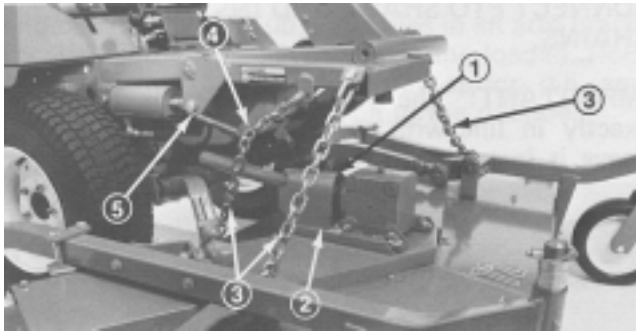

Figure 14
2. Mount PTO shield over input shaft and onto gear box mounting plate with two self-tapping screws (Fig. 14).
3. Attach lift chains to lift arm and cutting unit (Fig. 14) with six shackles, shackle pins (3/8 x 1-1/2 in.) (38 mm) and cotter pins (1/8 x 3/4 in.) (19 mm). Adjust chain length so both become tight at the same time when lifting lift arm.
3. Connect ends of tension spring between fourth link of rear chain and eye of cotter pin that holds cylinder pin in place (Fig. 14). Adjust length of chain so rear caster wheels are off the ground in transport position.